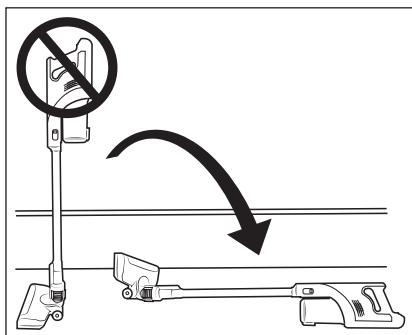

Fig. 9
- Do not try to place the vacuum cleaner upright when you want to put it down or take it out of your hand in the meantime. To do this, place the vacuum cleaner in the wall bracket **17** or lay it on the floor (see Fig. 9 and 10). Due to its high centre of gravity, the vacuum cleaner may otherwise tip over and be damaged and possibly damage other objects when tipping over.